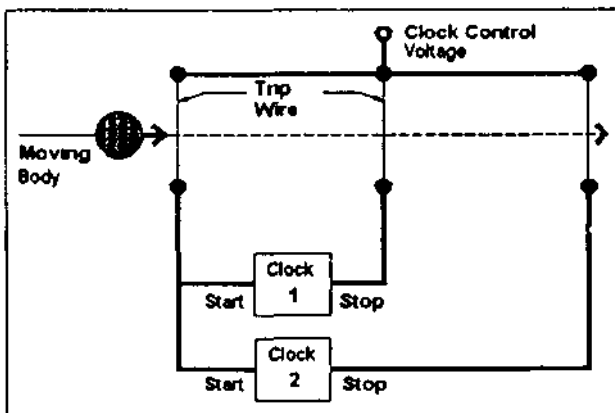

Figure 1 Block drawing of a simple "trip-wire" system for measuring the velocity of a moving body
Velocity measurements can be made by measuring the time taken for a body to travel between two points separated by a known distance. As such, the measurements are the average velocity between the points. However, if the points are close enough together, such that the velocity does not change significantly during the short time interval for the object to move between the two points, the measurement closely approximates the body's instantaneous velocity. Probably the most common method used for this measurement is to setup one or more pair of "trip wires" [a] for the moving object to cross, with a clock started when the first trip wire is broken and then stopped with the breaking of the second trip wire. This is shown schematically in Figure 1. In this case, the average velocity (V) of the object is: